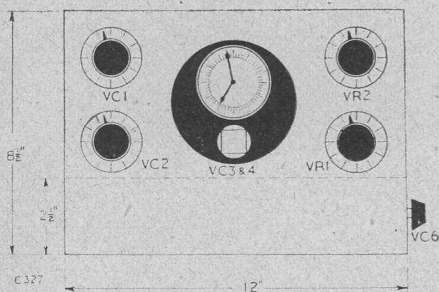

Fig. 4. Panel arrangement and dimensions.
A glance at Fig. 4 shows the symmetrical arrangement of the panel controls. This has been made possible by (1) mounting the auxiliary control VC6 at the side of the chassis, and (2) drilling the mounting bracket for VC1 with a $\frac{5}{16}$ " hole so as to allow the connecting rod spindle to VC2 to pass through it.